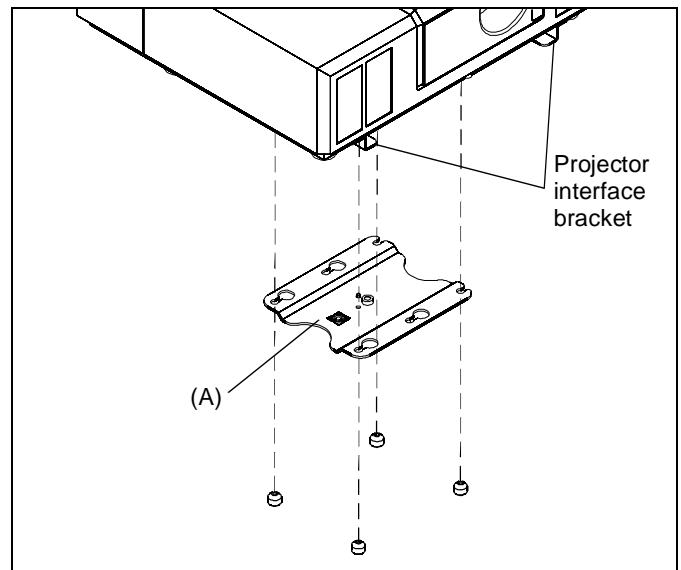

Figure 2
3. Attach projector with interface bracket to the TMA100 using four thumb nuts from the interface bracket. (See Figure 2)